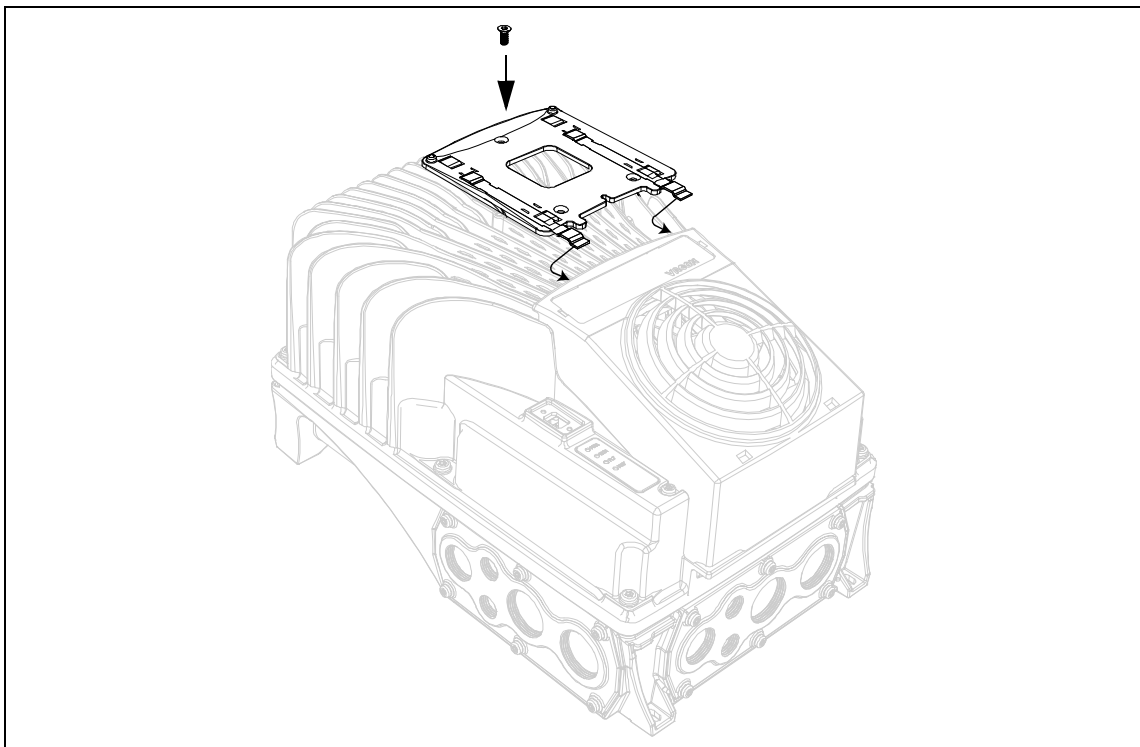

Figure 44. Installation of the keypad holder on the powerhead.
- Install the keypad holder with a screw as shown in the Figure 44. The metal sheets of the keypad holder have to be mounted under the fan holder as shown in the following figures.